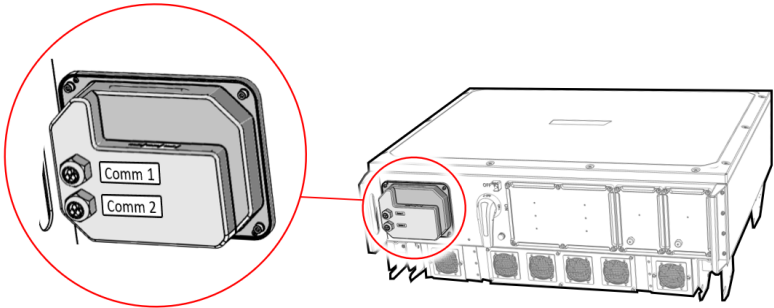

Figure 33: Communication compartment of the inverter
*Figure 33* shows the communication compartment of the inverter.